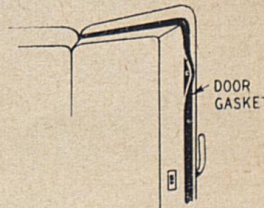

Fig. 44
- b. Door may need a new rubber gasket. Fig. 44. The old gasket can usually be taken off by removing the screws around the door edges.